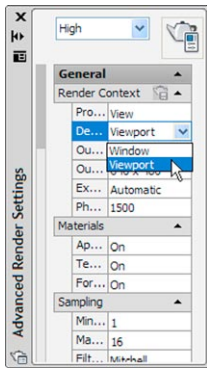

Fig. 15.19 The Advanced Render Settings dialog
7. Enter **rpref** at the command line. The **Advanced Render Settings** palette appears. In the palette, in the **Render Context** field *click* the arrow to the right of **Window** and in the popup menu which appears *click* **Viewport** as the rendering destination (Fig. 15.19).